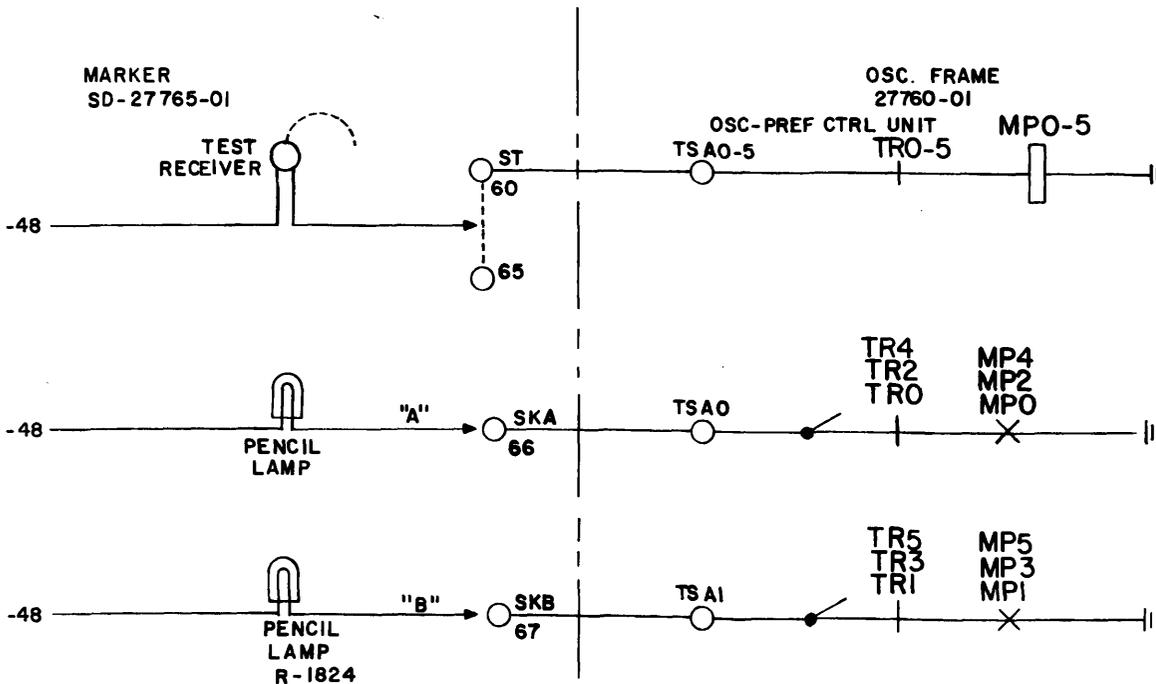

FIG. 4 TEST SETUP FOR ST- LEADS OUTGOING SDR CONN. CONTROL
5.32 Connect two R-1824 pencil lamps to SKA and SKB leads at terminating marker under test as shown for connections (A) and (B) in Figure 4. Connect other side of lamps to 48V battery as indicated. These lamps are referred to as lamps A and B respectively in Table 4A.